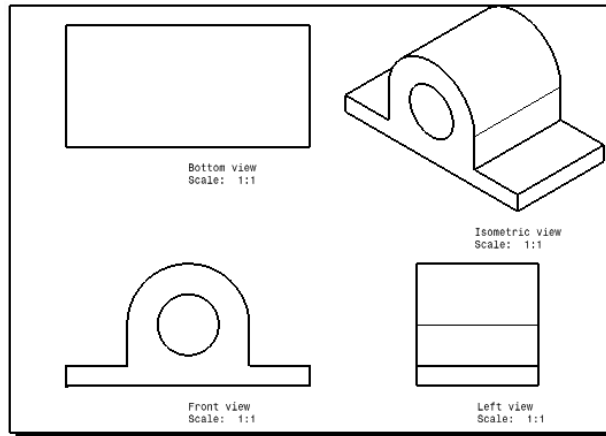

Figure 2-66 Drawing sheet after generating the drawing views
13. Click anywhere on the drawing sheet to generate the isometric view. The drawing sheet after generating the isometric view is shown in Figure 2-66.